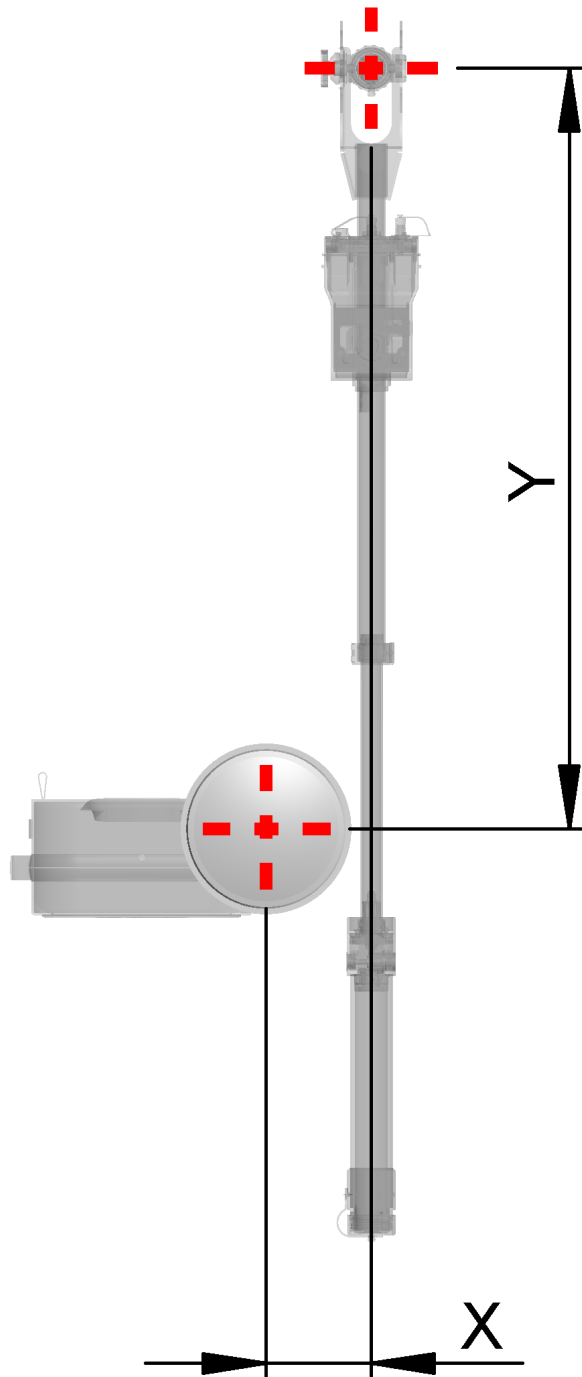
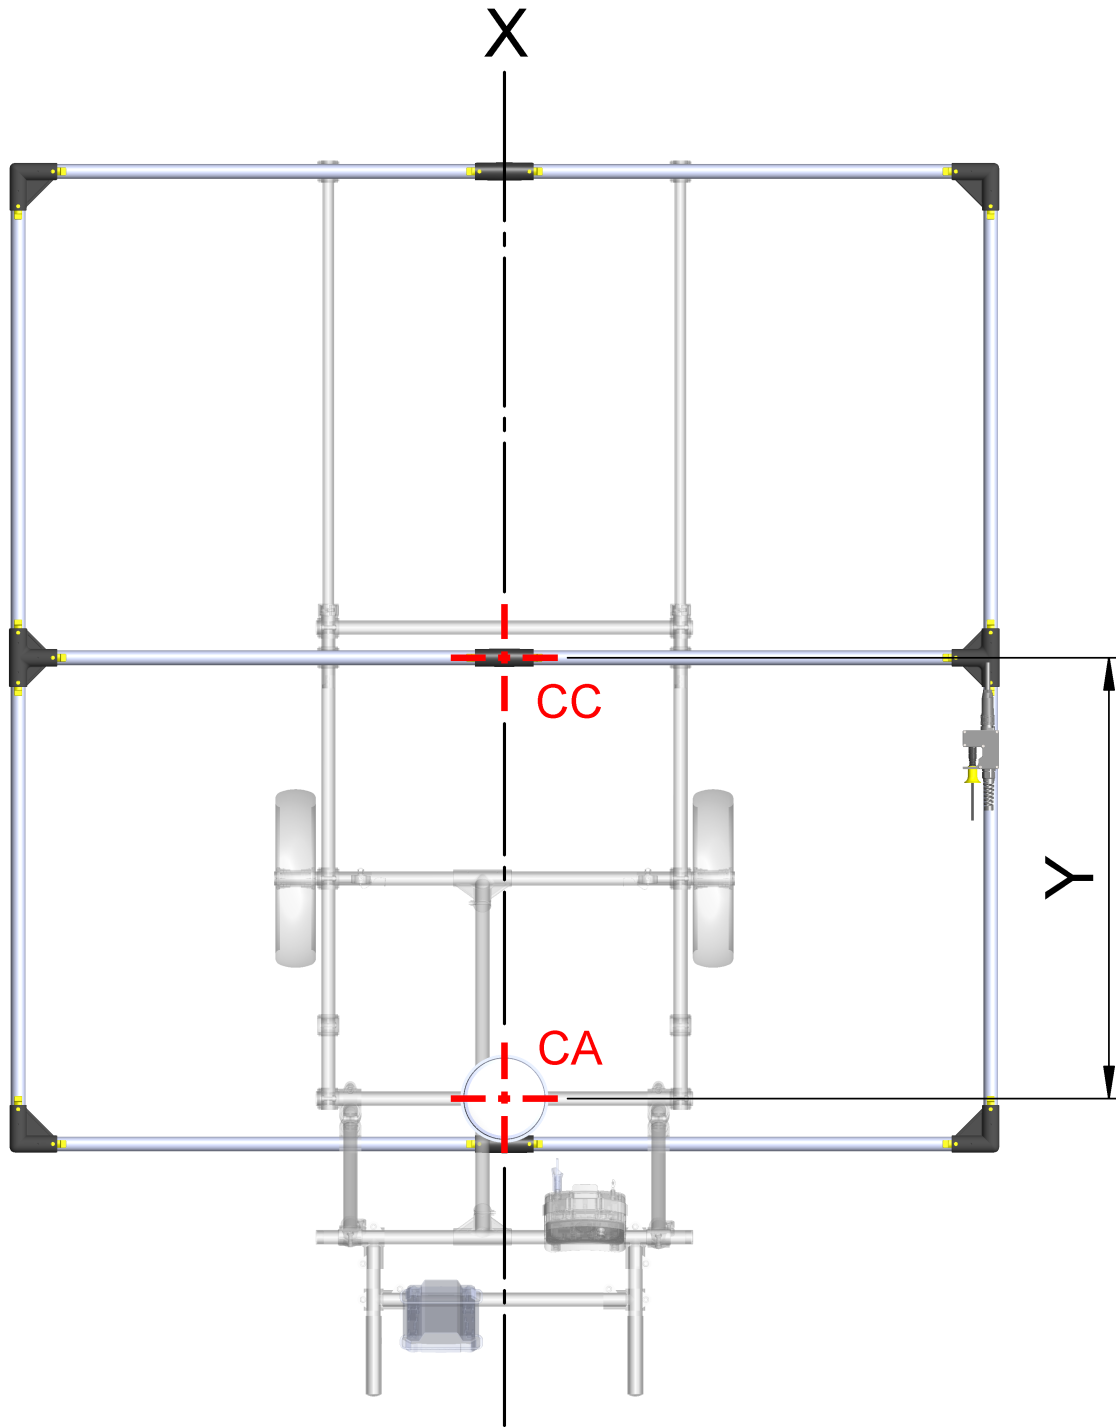

**Fig. 4.5.1: X and Y at VX1**
**Fig. 4.5.2:** X and Y at VMX10 2 x 2 m (X = 0)
4. If you are using a GNSS, enter the offset from the origin to the center of the probe **A** on the X axis for **X**. For **Y**, enter the offset from the origin to the center of the probe **A** on the Y axis. See also Fig. 4.5.1 and Fig. 4.5.2. For the recording height **Z**, enter the distance from the ground to the bottom edge of the probe.